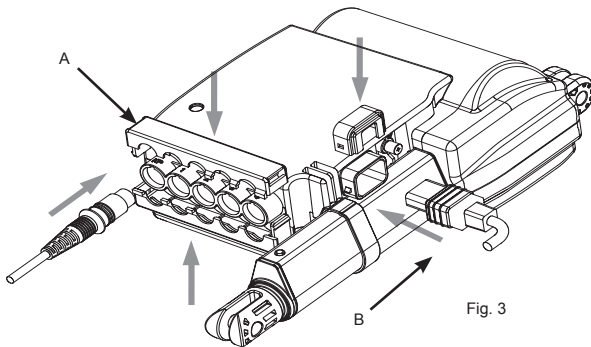

Fig. 3
4.2 Installation of LAK4D Fixer: After inserting connectors of an actuator and a key box vertically insert back the fixer on LAK4D controller (A), and then fasten the up fixer and down fixer on LAK4D controller (Fig. 3). Before inserting the main power cord rotate out the locker (B) along the arrow direction to insert power cord (Fig. 3) and then pull it back (Fig. 3) along the arrow direction.